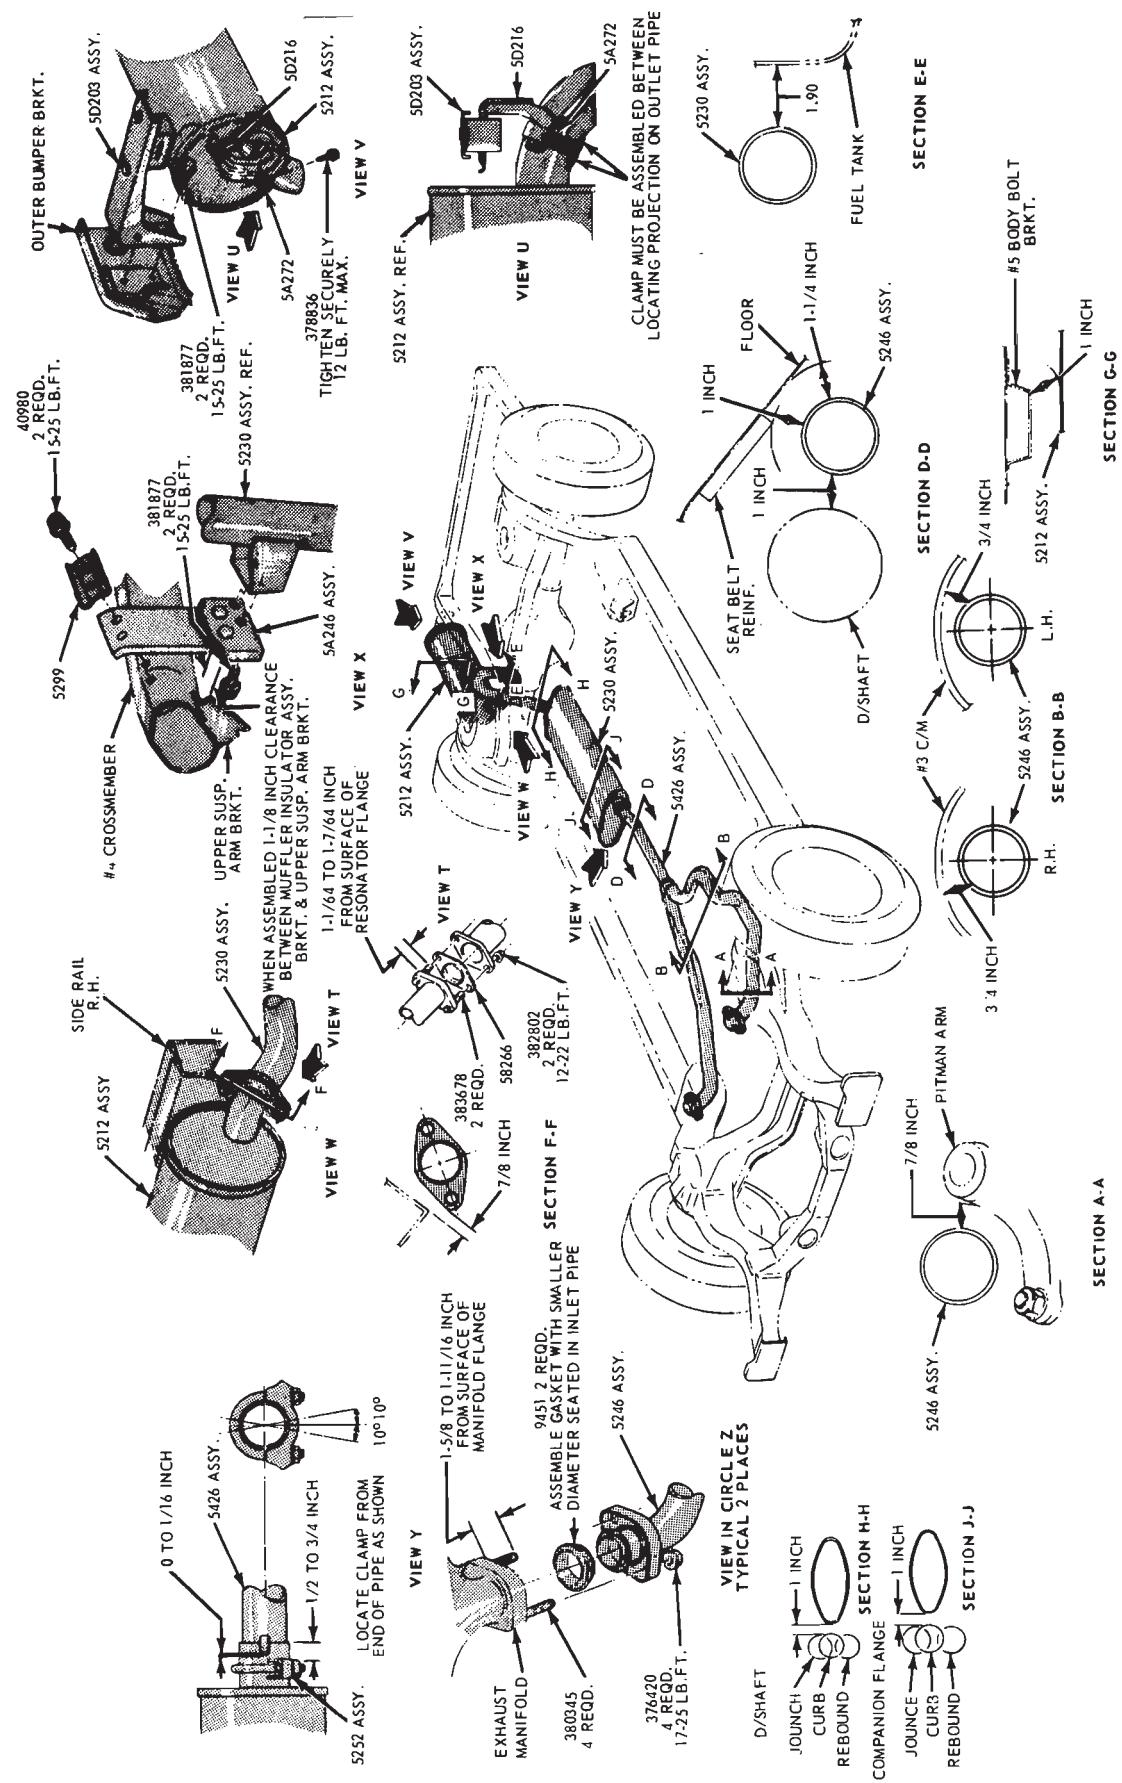

FIG. 7—Lincoln Continental Single Exhaust System—460 Engine
1. Position new exhaust gaskets on the inlet pipe flanges (Fig. 7).
2. Remove the bolts that retain the outlet pipe to the front hanger assembly (Fig. 7).
1. Install the muffler to the inlet pipe and loosely install the U-bolt clamp (Fig. 7).
4. Align the exhaust system to conform to the clearance specifications shown in Fig. 7.
2. Remove the inlet pipe nuts at the resonator flange (Fig. 7).
1. Install the resonator and tailpipe assembly on the inlet pipe flange (Fig. 7). Use a new gasket and loosely install the flange nuts on the flange studs.
4. Align the resonator and tailpipe assembly to conform to the clearance specifications shown in Fig. 7.